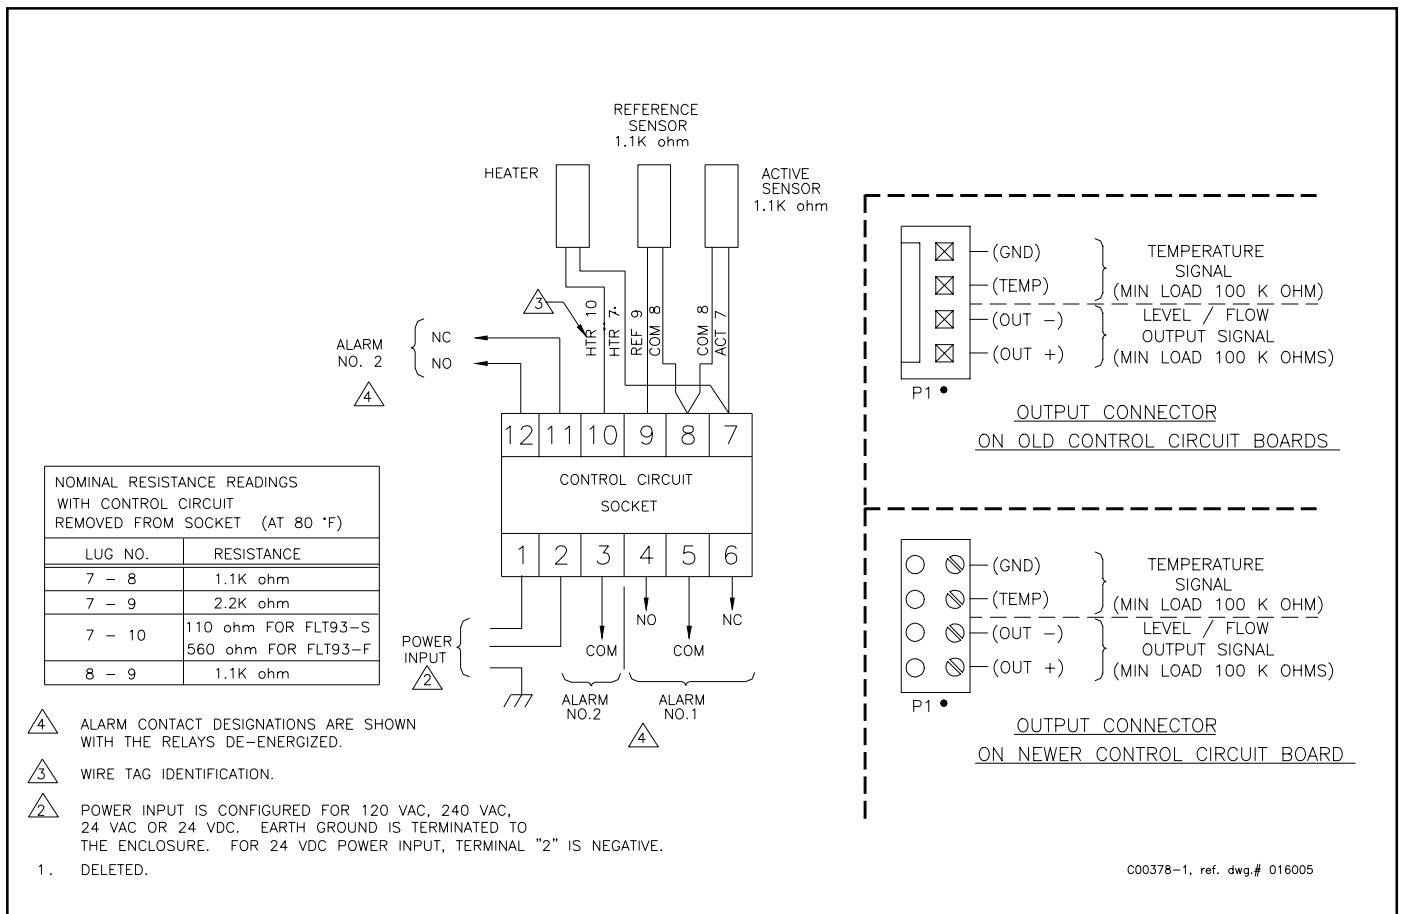

Figure 2-5. Local Wiring Diagram
3. When connecting the relay wiring, do so with complete understanding of what the process requires of the instrument. The instrument has dual SPDT or single DPDT relay output contacts dependent on the jumper configuration for each alarm switch point. For the relay logic, refer to Figure 2-5. Also refer to Table 3-5 and Table 3-6 in Chapter 3 - Operation. Relay contacts are shown with the relays de-energized. Wire in accordance with the system requirements.
When connecting the relay wiring, do so with complete understanding of what the process requires of the instrument. The instrument has dual DPDT or single 4PDT relay output contacts dependent on the jumper configuration for each alarm switch point. For the relay logic, refer to Figure 2-5. Also refer to Table 3-5 and Table 3-6 in
Two output signals are provided on the control circuit at P1. The signal voltage at positions 1 and 2 represents the process change. The signal voltage at positions 3 and 4 is proportional to the temperature at the sensing element. See Figures 2-5 through 2-7. See also Chapter 3 for the physical layout of the control circuit.